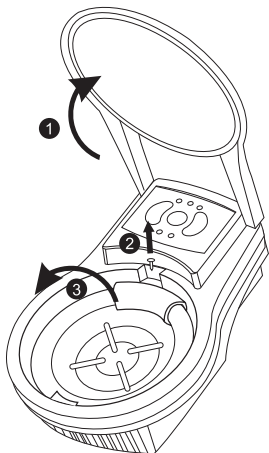

Figure 2
2. Open the front cover ❶; see Figure 2 for details.
3. After the tube is cooled (to avoid scalding), Loosen the screw of the UV lamp ❷ and take out the old tube ❸.